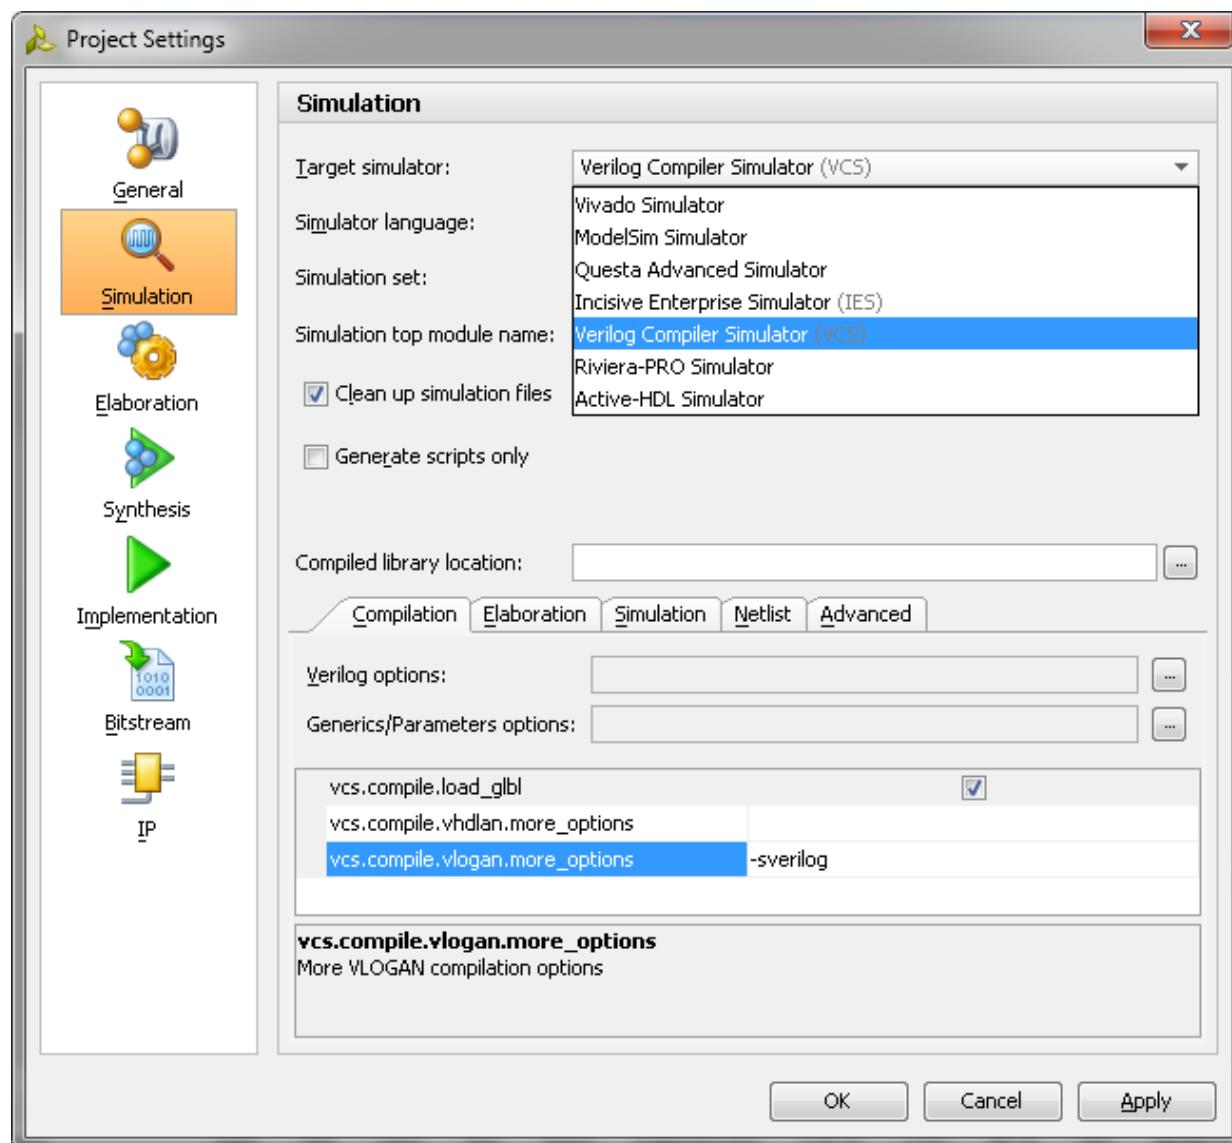

Figure 2-53: Simulation with VCS
- c. Under the **Simulation** tab, set the **vcs.simulate.runtime** to 1 ms (there are simulation RTL directives which stop the simulation after a certain period of time which is less than 1 ms) as shown in Figure 2-53.